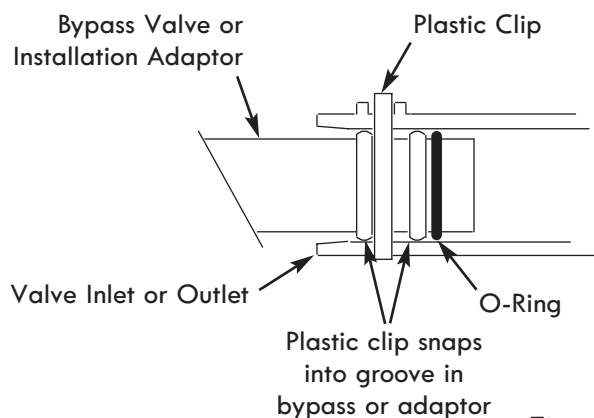

Figure 7
- 6A. Push the bypass valve into the softener valve's inlet and outlet ports as far as it will go. Snap the two large holding clips into place, from the top down as shown (see Fig. 7).
- 6B.** Lightly coat the o-rings with silicone grease and slide them onto the bypass valve. Push the bypass valve into the softener valve's inlet and outlet ports as far as it will go. Snap the two large holding clips into place, from the top down as shown (see Fig. 7).
- 7.** Lightly coat the o-rings with silicone grease and slide them onto the installation adaptors. Push the adaptors into the valve inlet and outlet ports, or bypass valve ports, as far as they will go. Both adaptors are the same and fit either port. Snap the two large holding clips into place, as shown (see Fig. 7).